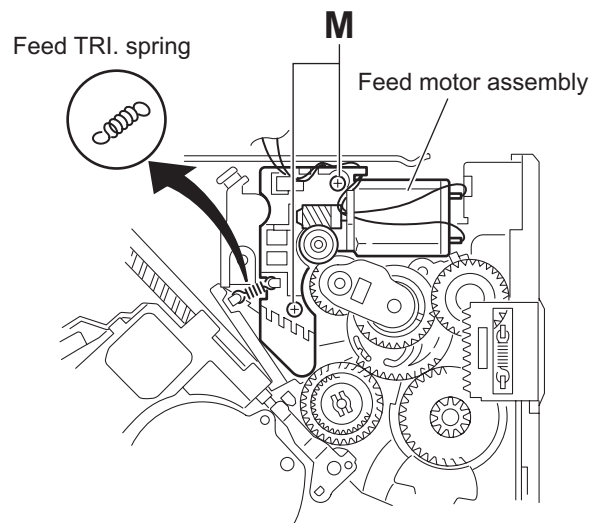

Fig.21
### 3.2.11 Removing the feed motor assembly (See Fig.21 and 22)
- Remove the feed TRI. spring on the bottom of the body. (See Fig.21.)
- Remove the two screws **M** attaching the feed motor assembly. (See Fig.21.)